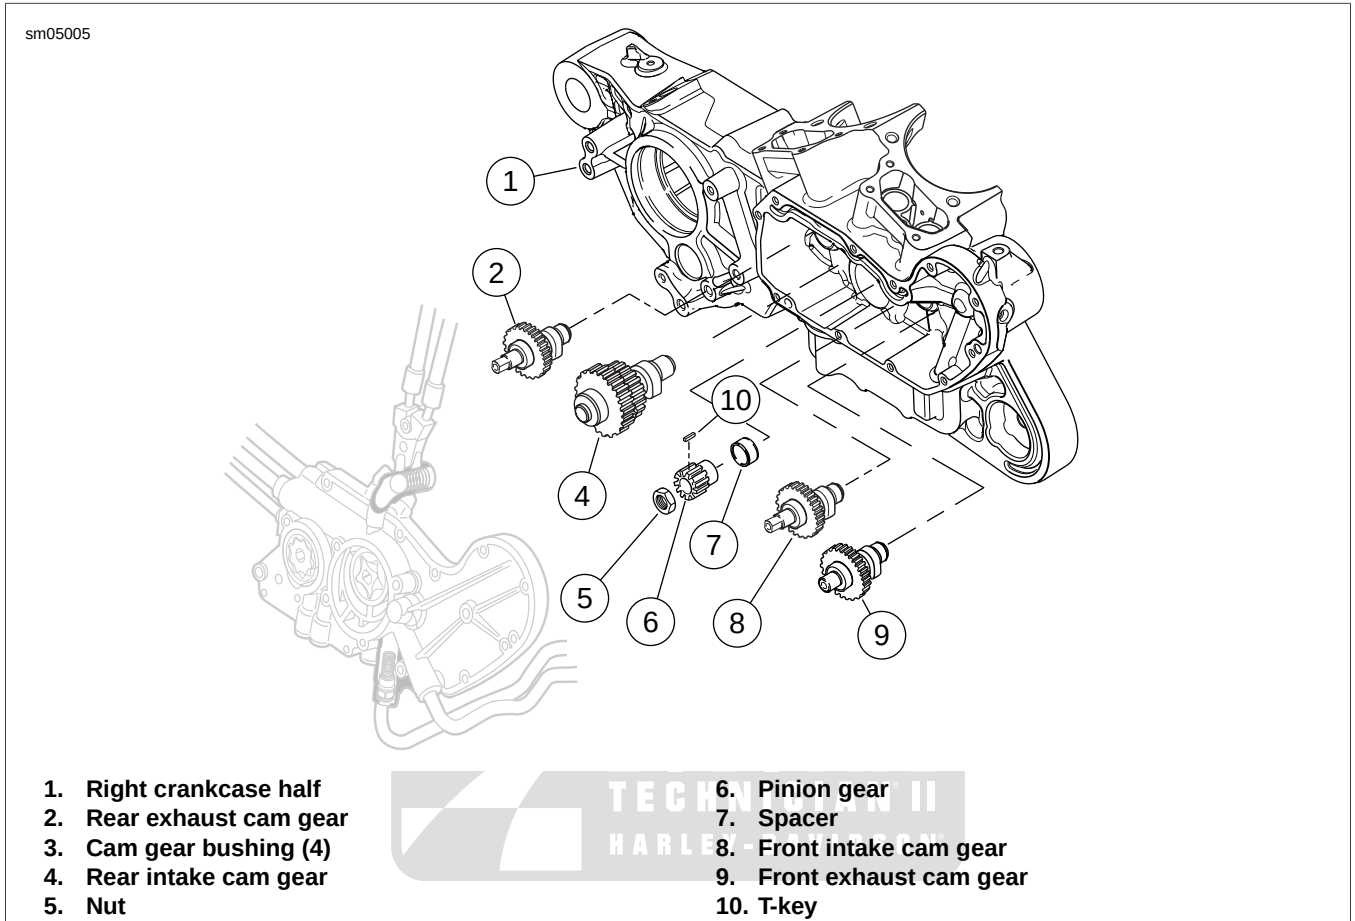

Figure 3-97. Gearcase and Valve Train Components: XR Models
1. See Figure 3-97. Make sure shaft key (10) is installed on flywheel pinion shaft. Install spacer (7) and pinion gear (6) on pinion shaft.
2. See Figure 3-97. Clean threads on pinion shaft and nut (5). Apply several drops of LOCTITE THREADLOCKER 262 (red) to threads of nut.